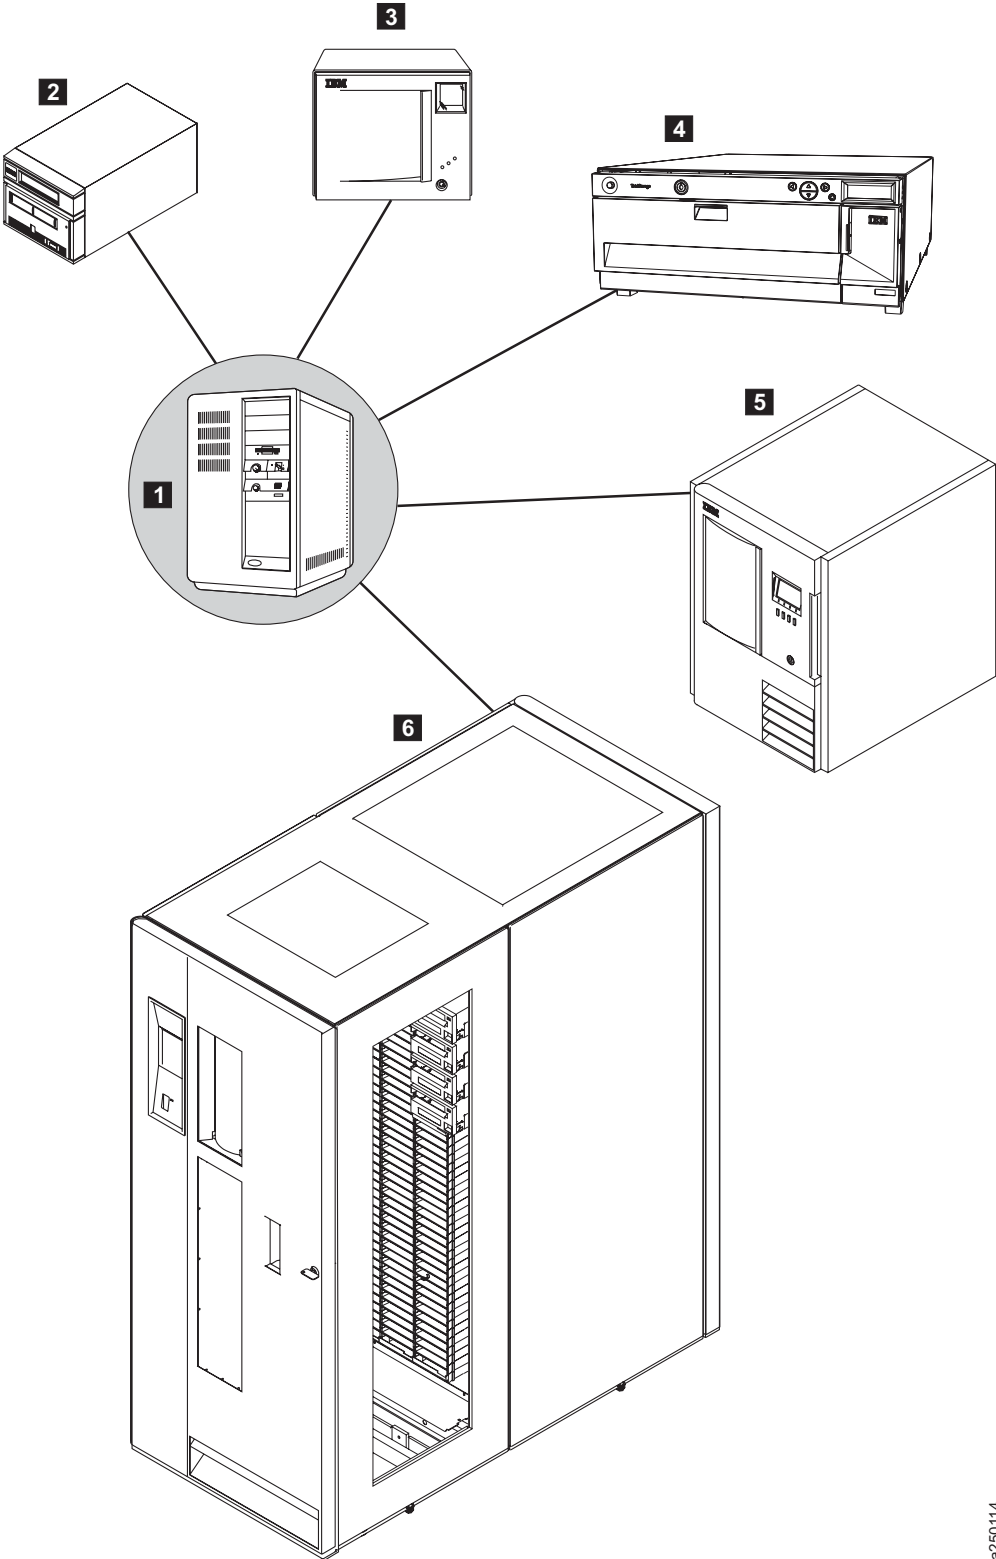

Figure 1. Attachment Array
Figure 1 on page 5 illustrates the attachment of various Ultrium products to an open systems server.
- The following are the Ultrium Device Driver attachments shown in Figure 1: